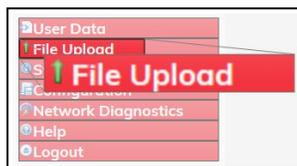

Figure 262: File Upload link
4. On the **Menu** list, click the **File Upload** link. Figure 262